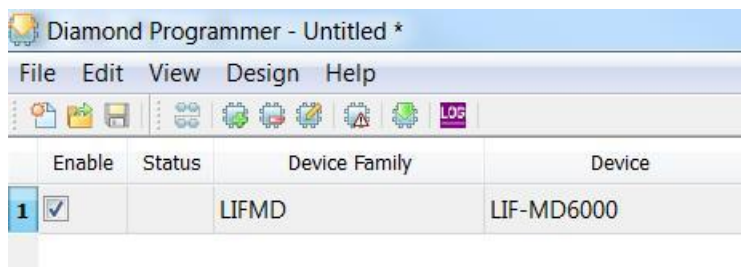

Figure 4.5. Device Selection
3. In the Diamond Programmer main interface, select **LIFMD** in **Device Family** and **LIF-MD6000** in **Device** as shown in Figure 4.5.